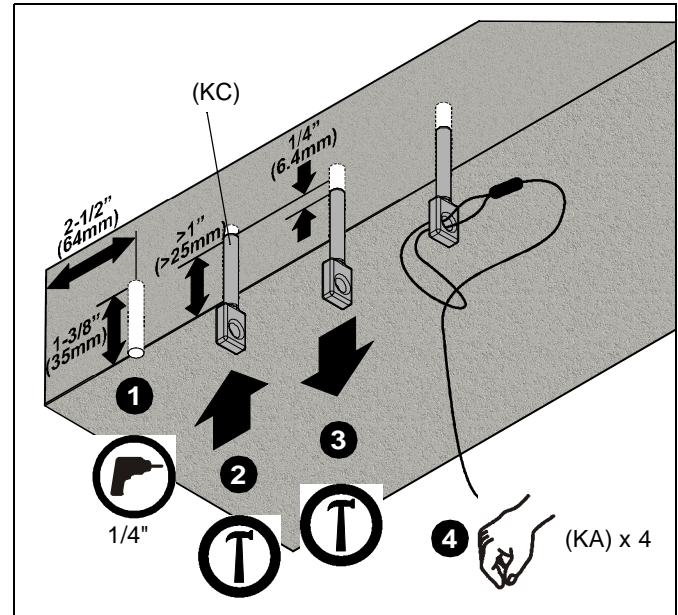

Figure 5
1. Drill 1/4" diameter x 1-1/8" deep pilot hole at each marked cable anchor support location. Ensure hole is at least 2-1/2" from nearest concrete edge. Remove debris from hole. (See Figure 5)
2. Tap anchor (KC) into each hole to a depth of at least 1". (See Figure 5)
3. Using claw portion of hammer, set each anchor (KC) by pulling it out of hole approximately 1/4". (See Figure 5)
4. Insert portion of manufactured loop on cable (KA) through hole in anchor (KC), and insert end of cable (KA) through loop. Repeat for 3 remaining support locations. (See Figure 5)